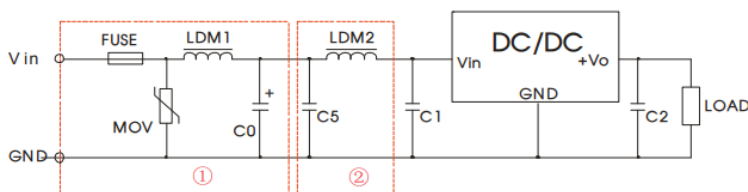

Figure 2: EMC Typical Recommended Circuits
Radiation disturbance	CISPR32/EN55032 CLASS B (The recommended circuit is shown in Figure 2 )
- 2) Typical EMC recommended circuits are shown in Figure 2.